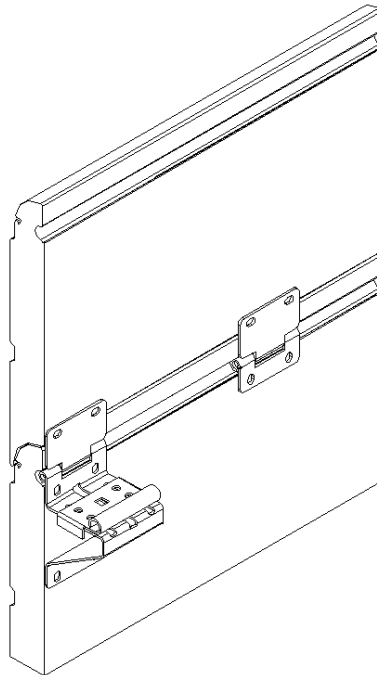

Figure 16
- 20** Place the remaining panels and secure the side and central hinges (may be pre-fitted) to the panels (Figure 16).